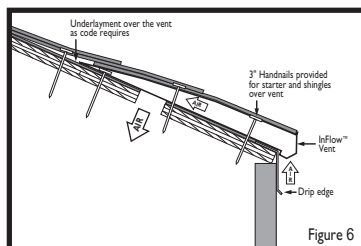

Figure 6
See **Figure 6 and 7**.
Step 11: Hand-nail the starter and roofing shingles on top of the vent using the 3" nails provided. See **Figures 6 and 7**.